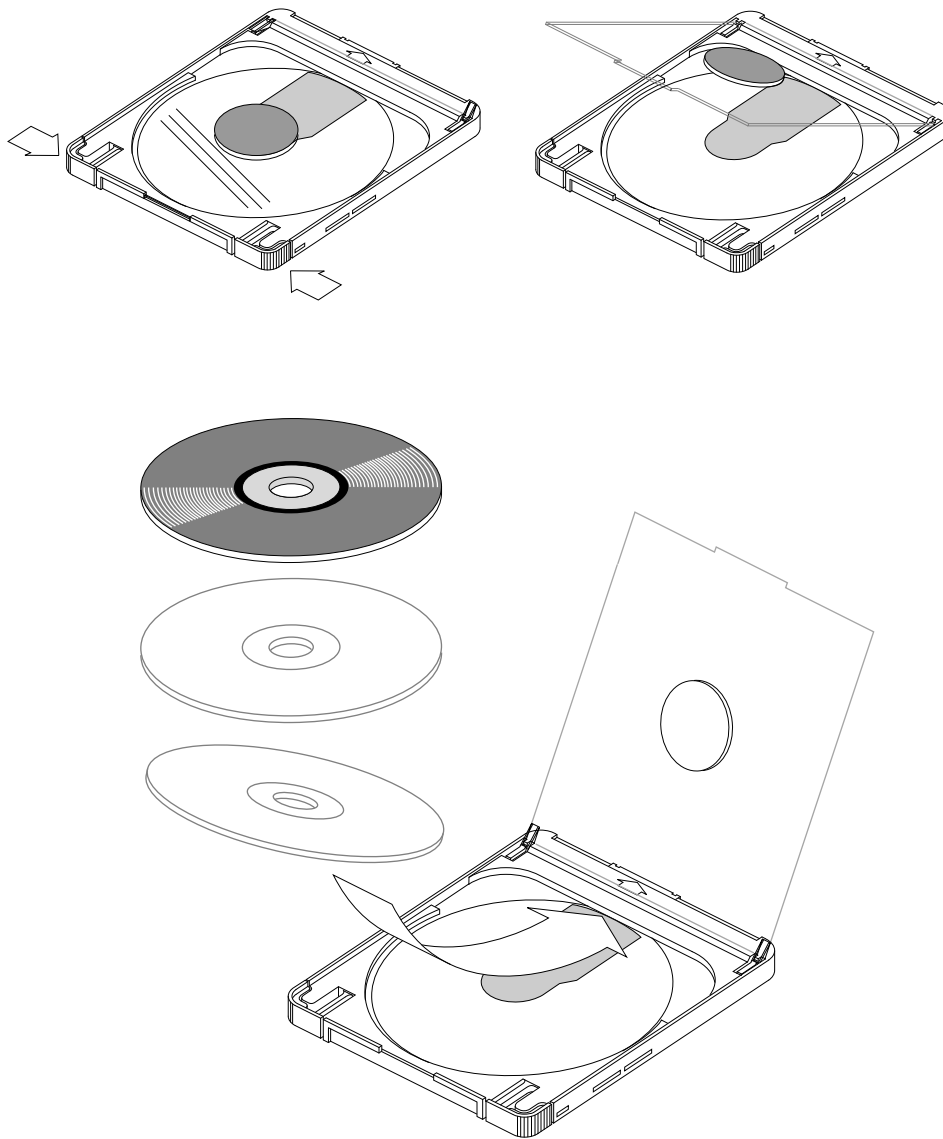

Figure 5-9 CD-ROM Installation
1. Open the CD-ROM caddy by squeezing the two corner tabs together at the same time (see Figure 5-9).
2. Hold the CD-ROM diskette around the edges and place it into the caddy as shown in Figure 5-9.